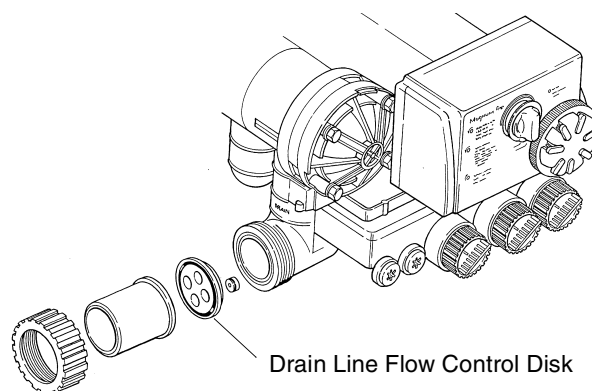

Figure 3.1
**Drain Line Piping** - To prevent mineral loss during backwash, and to ensure proper operation of the Magnum Cv Series control valve, **A DRAIN LINE FLOW CONTROL** must be plumbed into the drain line prior to placing the valve in the service mode. Flow controls from 5 to 40 gpm (18.92 to 151.4 Lpm) are available from Pentair Water and can be easily installed in the drain line (Figure 3.1). Flow controls greater than 40 gpm (151.4 Lpm) must be plumbed externally. Selection of the proper drain line flow control will depend on the tank size and media used for the installation. See Table 10.3.